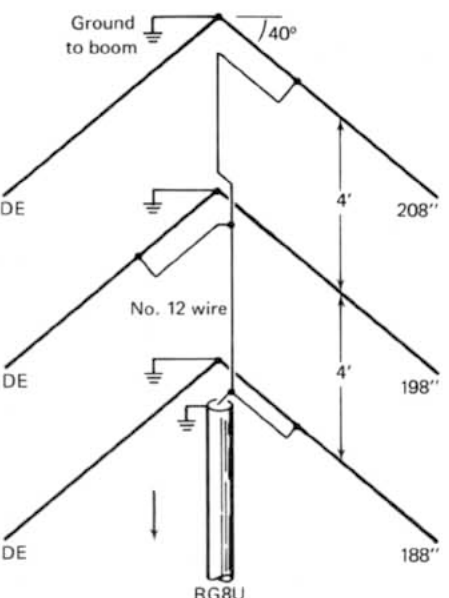
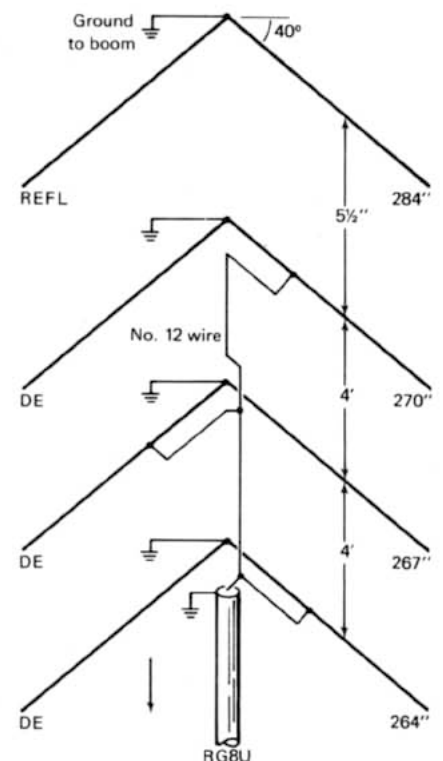

Fig. 3- The design shown in this diagram was used on 10 meters with 7.92 dB over the entire phone band.
Fig. 4- This configuration is in use at present at K4JZB. It has a gain of 12 dB.
I then built a three-element broadband antenna for 28 MHz (fig. 3). It was installed 24 feet up and aimed due west. With only 60 watts p.e.p. output, I was able to work VK's when they were only hearing west coast stations.
One nice thing about these antennas is that they take a shorter boom. The antennas shown in figs. 3 and 4 were also used with spacing between driven elements (DE) of 2 feet as shown in fig. 5. These would have a boom length in fig. 3 of 4 feet and in fig. 4 of 9 1/2 feet. This would make a very compact beam for 10 and 15 meters.